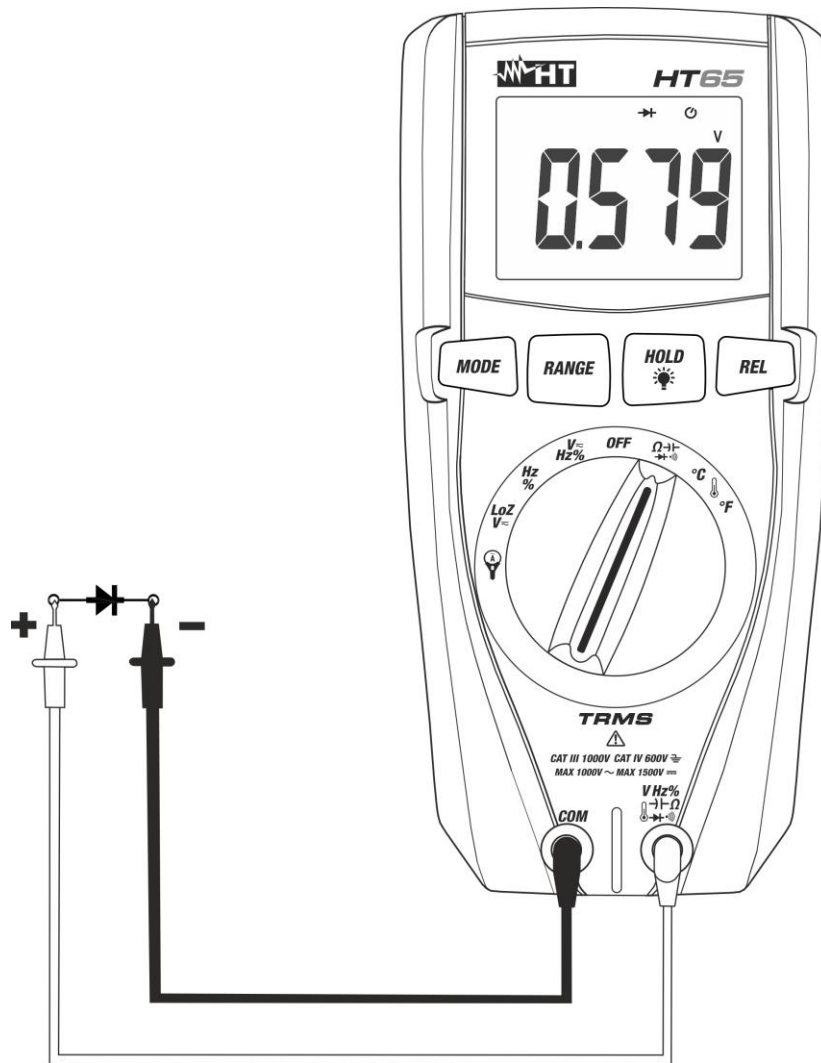

Fig. 7: Use of the instrument for diode test
4. Position the leads at the ends of the diode to be tested (see Fig. 7), respecting the indicated polarity. The value of directly polarized threshold voltage is shown on the display.
6. If the display shows the message "**OL**", the terminals of the diode are reversed with respect to the indication given in Fig. 7 or the P-N junction of the diode is damaged.